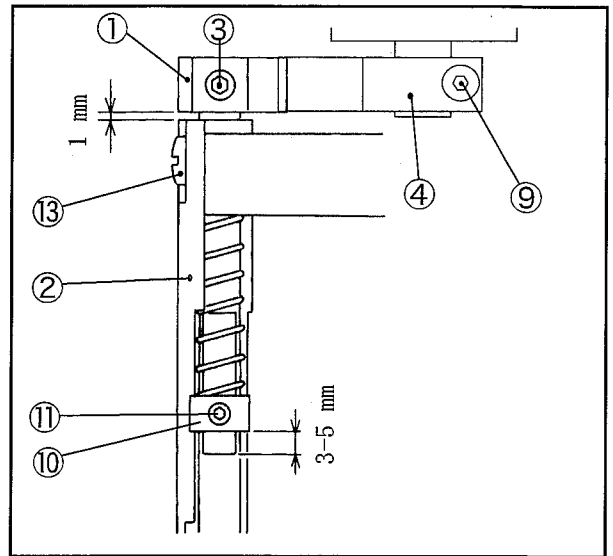

Fig. 8
- (1) Adjust the pressure of the upper knife⑦ against the lower knife⑧ by tightening the screw⑪ until the upper knife collar⑩ is 3-5 mm from the edge of the flat face of the upper knife shaft. (Fig. 8)
- (2) Tighten the screw③ against the flat face of the upper knife shaft until the clearance between the driven gear① and upper knife holder② is 1 mm. (Fig. 8)
- 1) Remove the two screws⑫ and screw⑬ in Fig. 8.
- 3) Remove the two screws⑮ and screw⑯ (3 total) of the lower knife.
- 4) Exchange the lower knife⑧.